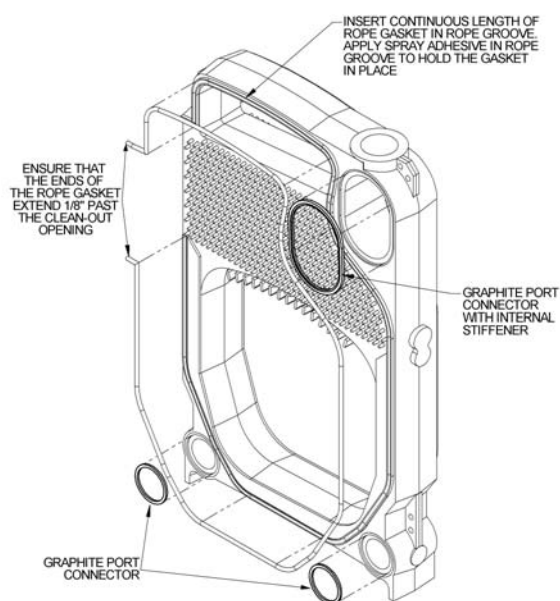

Figure 2.4: Rope Gasket and Port Connector Installation
9. Apply a length of rope gasket (supplied in the section assembly cartons), avoiding bends and twists in the rope. Ensure that the ends of the rope gasket extend past the clean-out cover opening as shown in Figure 2.4.